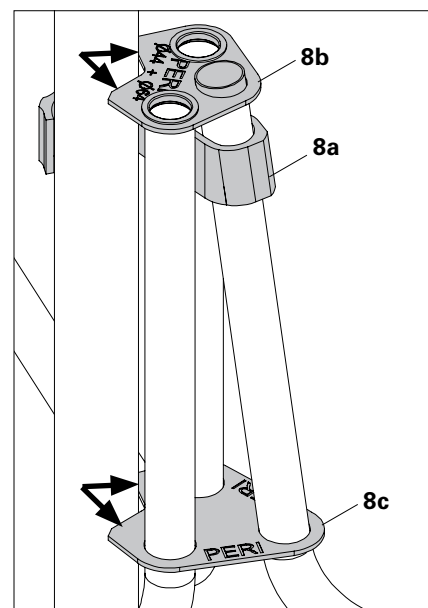

Fig. A1.03a
3. Ensure that slab prop lies flat against the top and bottom connection plates (8b and 8c). (Fig. A1.03a)